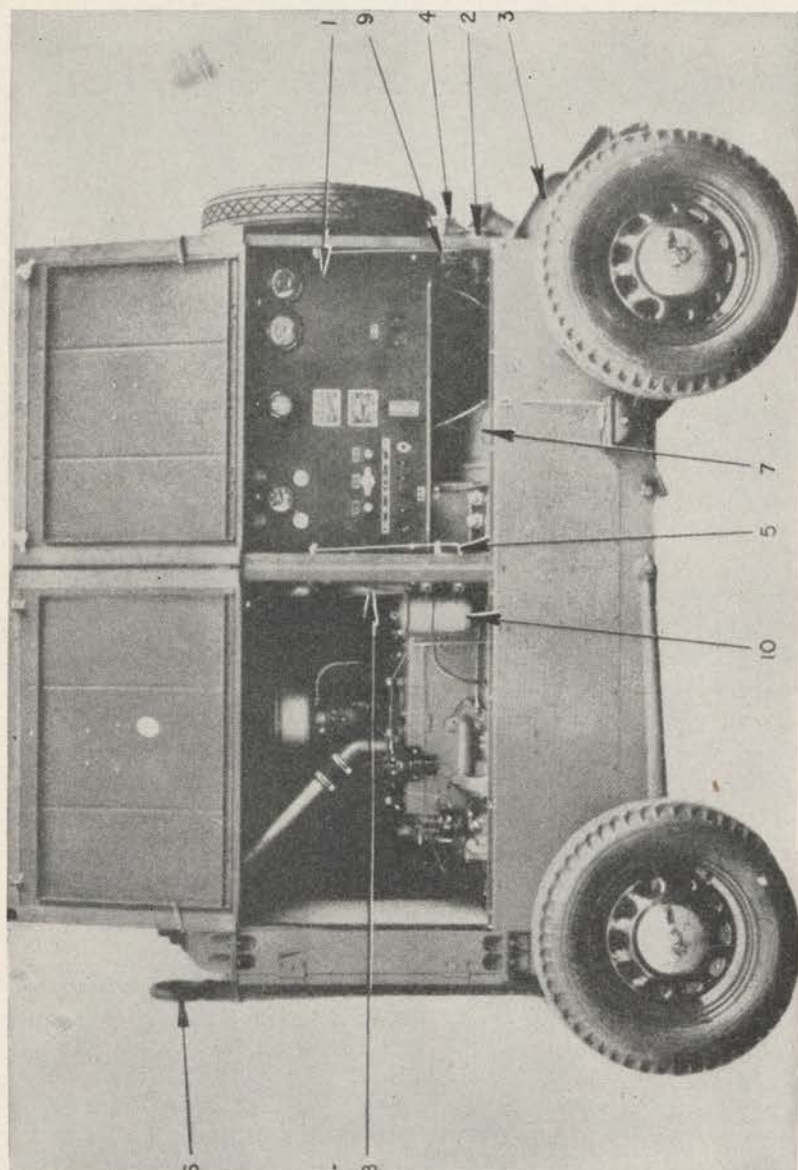

FIGURE 10.—Sperry M1941 power plant (left side).
*Q.* Point out the various parts, by name, of the power plant with which your organization is equipped. *A.* Refer to figures 10 and 11 for the M1941 Sperry power plant.